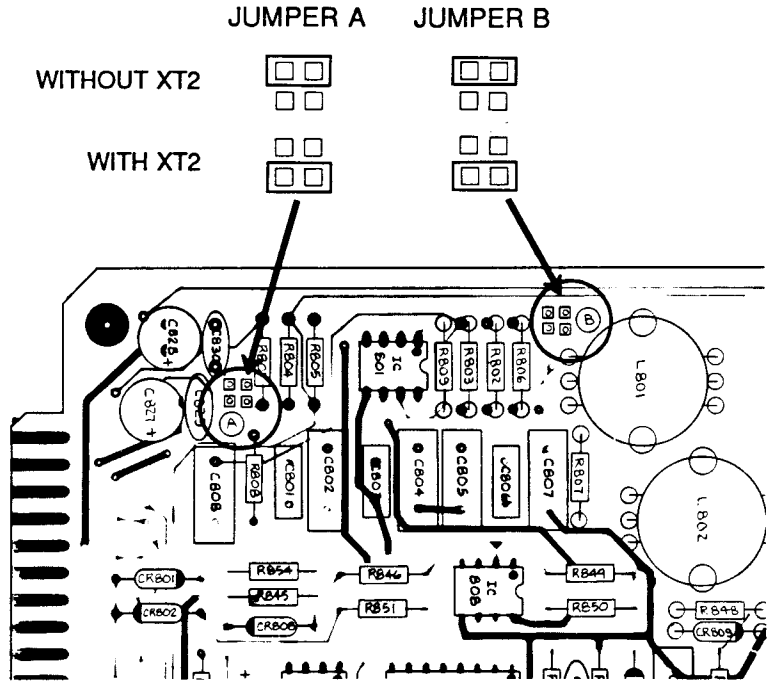

Fig. 2-8: Jumper Positions, Cards #8 and #9
- e  Move jumpers A and B on Cards #8 and #9 to the WITH XT2 positions (see Fig. 2-8).